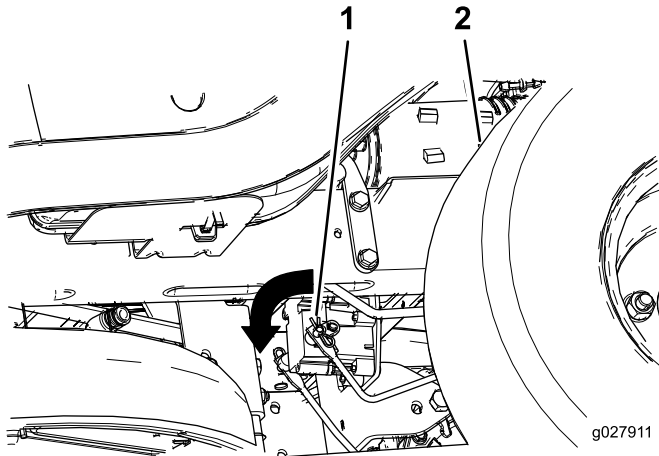

Figure 39
2. Locate the shaft on the electric brake where the brake link arms are connected (Figure 39).
3. Rotate the shaft forward to release the brake (Figure 39).